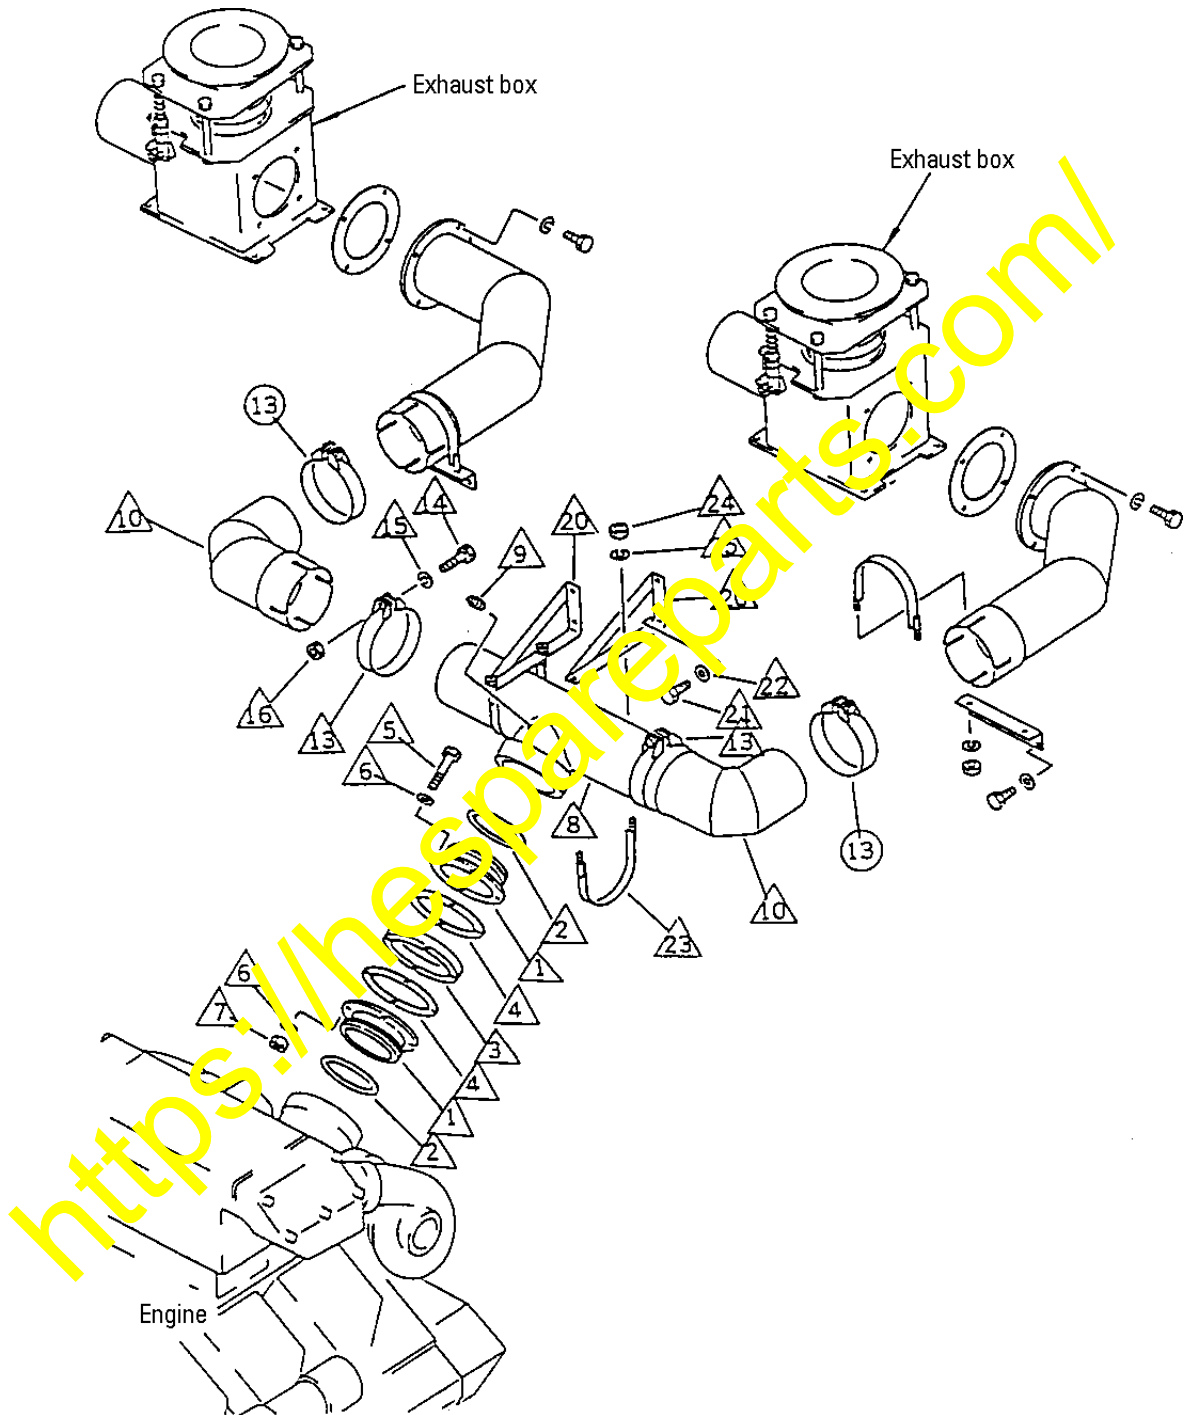

Fig. 8
- (1) Remove the existing exhaust piping. (See Fig. 8)